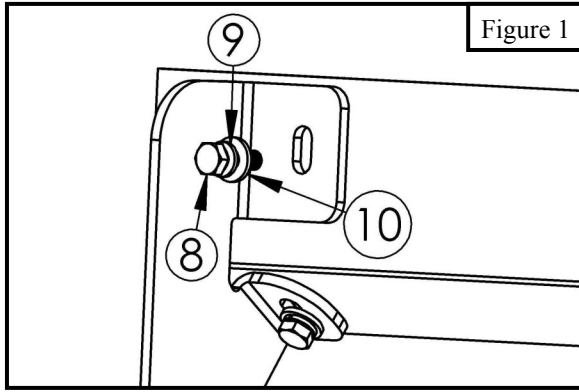

Figure 1
2. Starting on the driver's side. Locate front mount location on the rocker panel with threaded holes and locate (1) driver mount bracket and loosely install using the provided SEMS hardware (Items 8-10). See **Figure 1**.